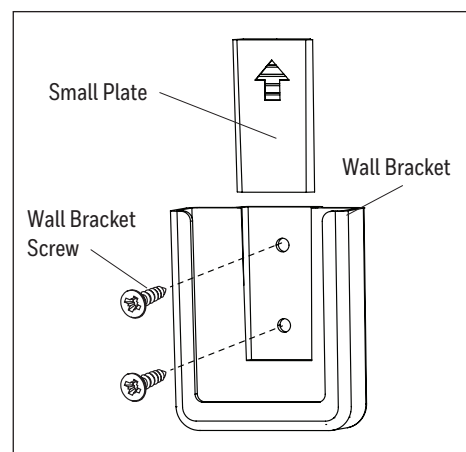

Figure 4.8
- Remote control comes equipped with a wall bracket. If you wish to install the wall bracket, remove the small plate to expose the screw holes. Insert wall bracket screws through holes and into wall, then cover with the previously removed small plate. The remote can be stored in the wall bracket for easy access (Figure 4.8).